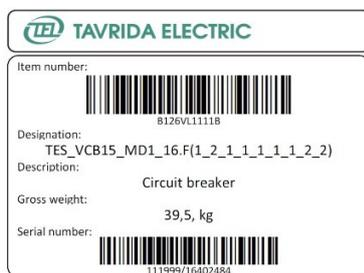

Figure 19
- labels for manufacturers and product information (Figure 19);